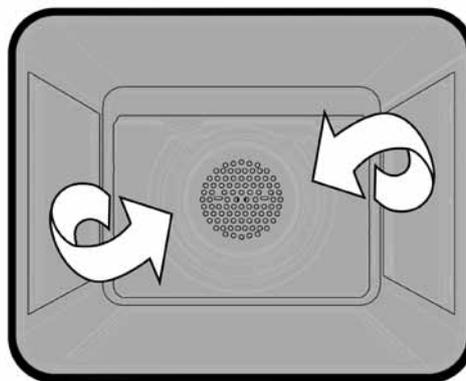

Figure 2
- With fan forced ovens, heat comes from the element surrounding the fan (see Figure 2).